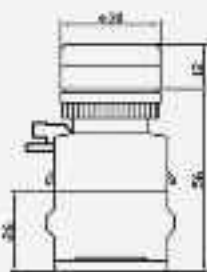

Figure 1 LA38-11 BN/T General Type
1. See Figures 1–12 for the outline dimensions.